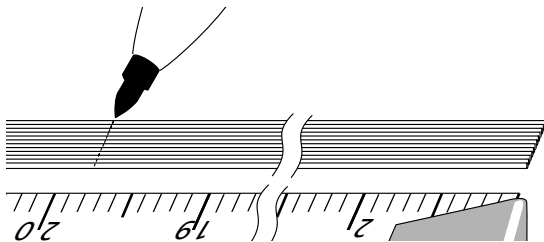

Figure 16
- Step 1:** Measure the required distance on the ribbon with a tape measure and mark this point with a permanent marking pen (Figure 16).